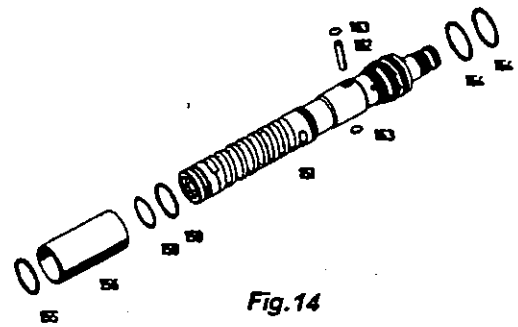

Fig. 14
8.1 Unspring snap ring (155) and pull off sliding tube (156) (Fig. 14).